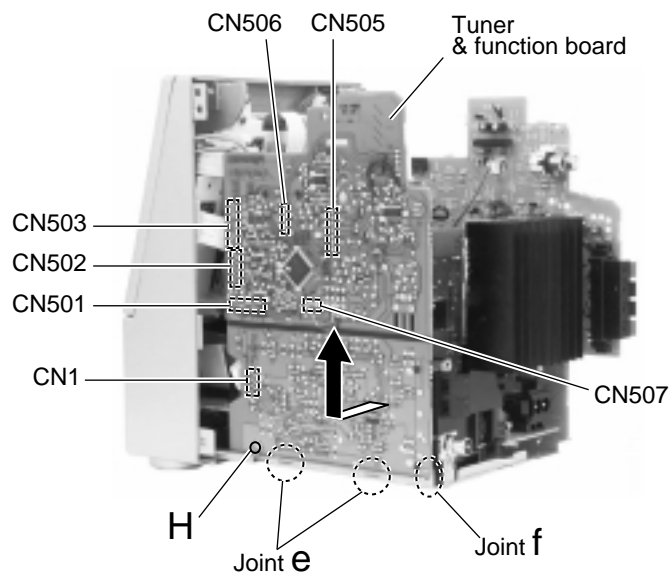

Fig.15
■ Removing the tuner & function board (See Fig.15)